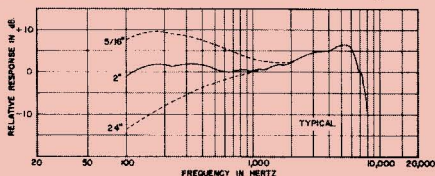

FIGURE 1
1. Maintain the proper distance of $\frac{1}{2}$ to $2\frac{1}{2}$ cm ($\frac{1}{4}$ to 1 in.) from the microphone. This close working distance allows the microphone to cancel distant sounds and provide superior output under noisy conditions. This microphone has a strong proximity effect, that is, maximum bass output is obtained when it is used close-talking (see Figure 1). For reduced bass response, hold the microphone a little farther away. For optimum noise rejection, do not work the microphone at distances greater than 5 cm (2 in.).
Frequency Response: 100 to 8,000 Hz close-talked (see Figure 1)